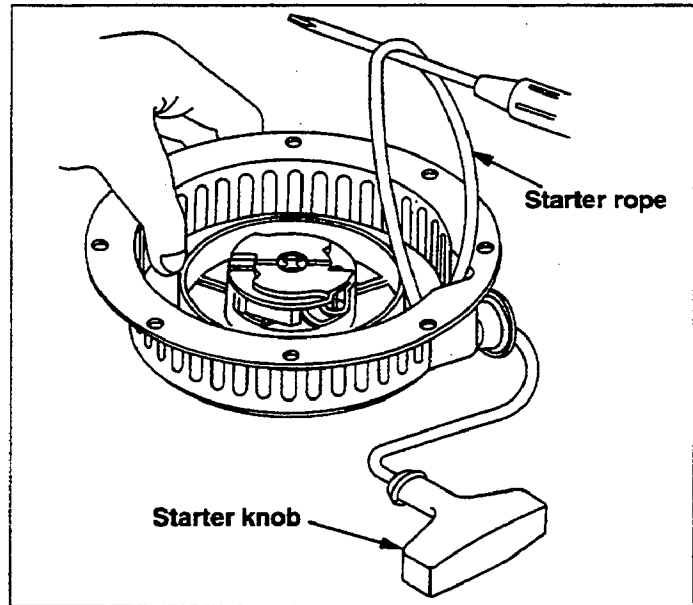

Fig. 11-1
Hold the reel with your thumb and pull the starter rope inside the starter case with a screw driver. (See Fig.11-1.)
- (1) Test the operation of the recoil starter to see if the rope recoils satisfactorily and if the ratchets project and retract properly.
- (2) Pull the starter knob all the way and check following.
- If there is starter rope left in the groove of the reel, the power spring is overloaded. Rewind the reel once or twice. (See Fig.11-1.)